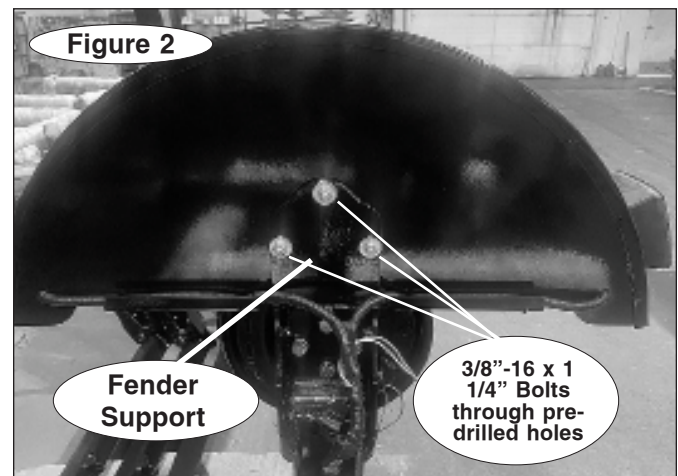

Figure 2
2. Attach the fenders – position both fenders on the outside of the fender supports, as shown in Figure 2, so that the three pre-drilled holes (Figure 2) align to the three pre-drilled holes in the fender supports.
Attach the fenders to the bolts with the 3/8"-16 x 1 1/4" bolts, flat washers (both sides) and nuts (Figure 2). Position the bolts so that the heads of the bolts will be facing the towed vehicle.